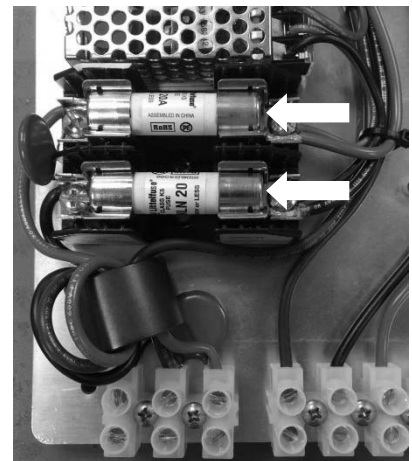

Figure 14 – Power Fuse
7. Remove and replace fuses with Littlefuse P/N ONLN020.T. (See Figure 14).